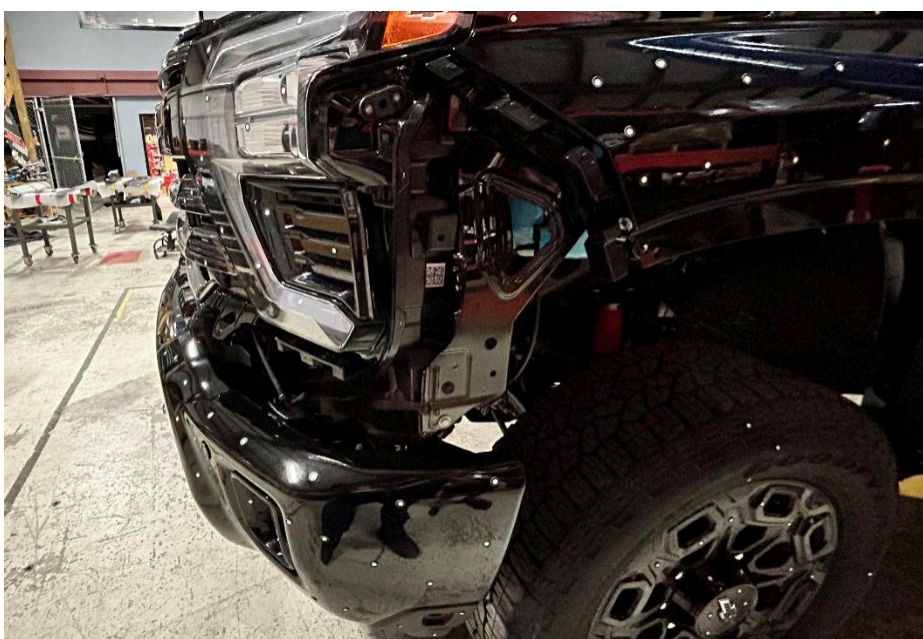

Figure 6
6. Using a panel pry tool and your hands, carefully pull outward on the fascia starting from the edge against the fender to remove it from the vehicle. Figure 6